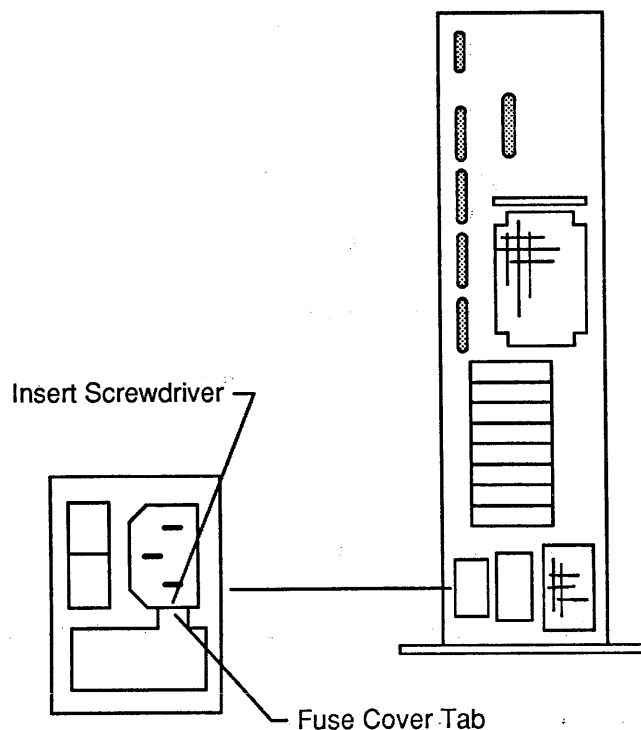

Figure 2.2. Removing the Fuse Holder
3. Snap the fuse cover out of the machine using a flat-head screwdriver. Refer to Figure 2.2.